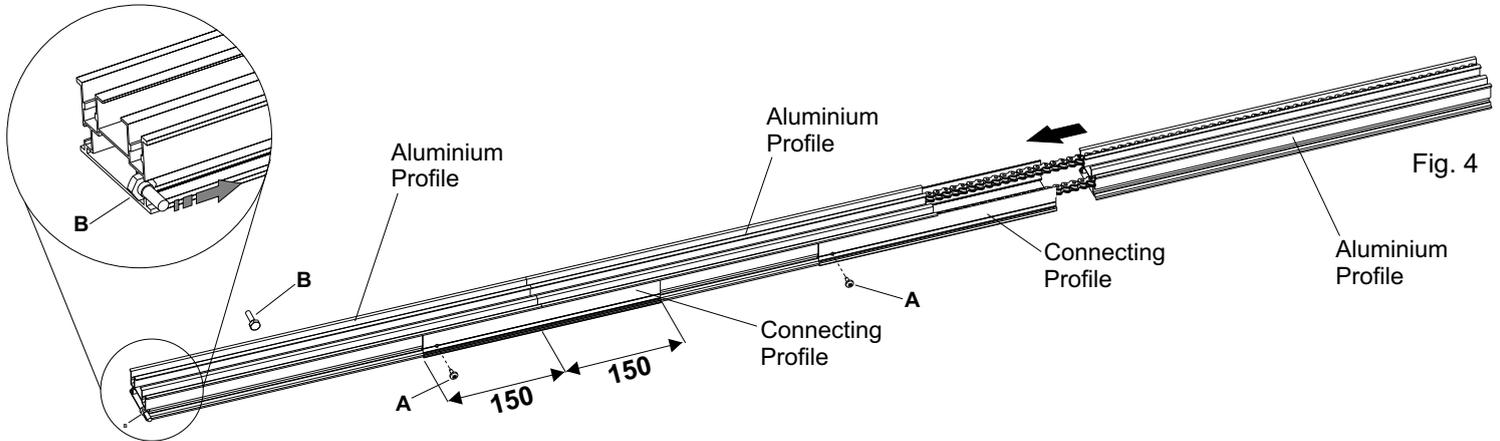
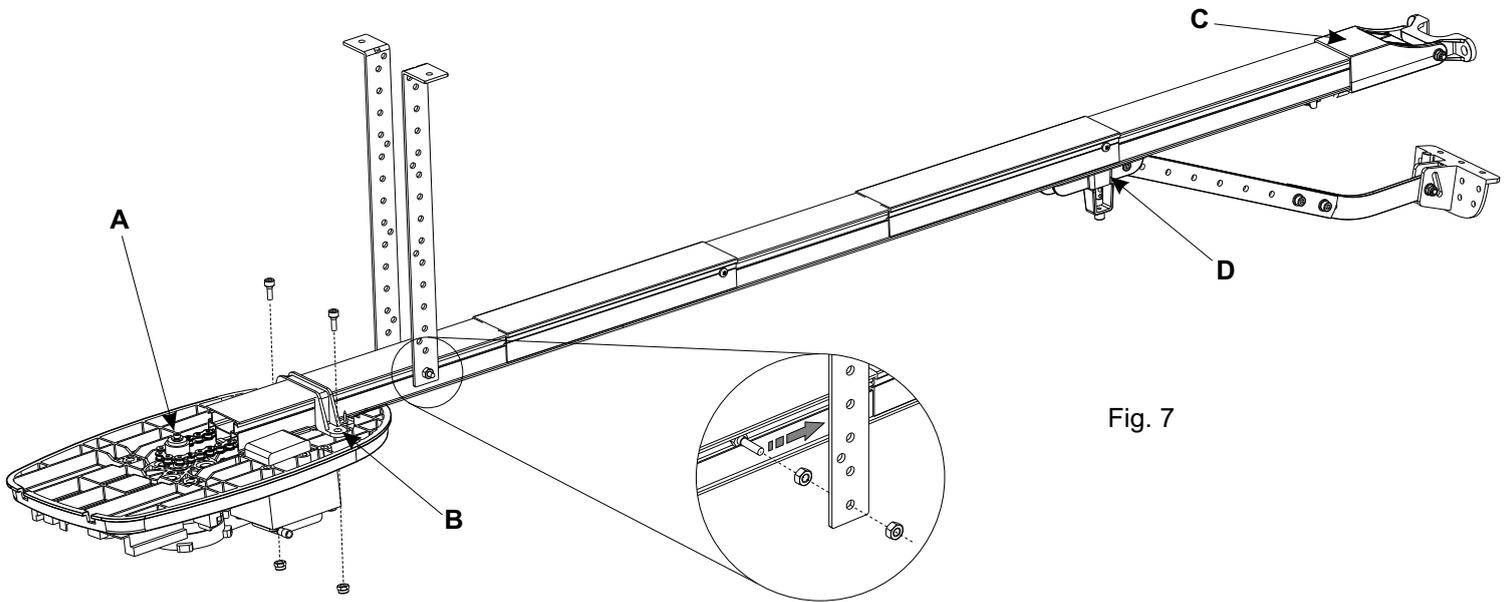

Fig. 4
Fig. 7
- Insert the connecting profile into the aluminium profile for half its length (150 mm) and fix it with the **A** screw. (Fig. 4)
- Insert the two supplied screws (**B**) into the holes of the aluminium profiles (Fig. 4)
Note: In Fig.4 a pair of screws are inserted into the loopholes which will be used for fixing the Corona S operator to the ceiling with the special brackets (See also Fig. 7).
- Make sure that the chain has been correctly mounted on the pinion of the Corona S body (Fig. 7 - A).
- Place the guide on the stop of the Corona S body and fix it with the special bracket (Fig. 7 - B).
- Mount the front fixation support on the other end of the guide (Fig. 7 - C)
IMPORTANT: Keep well lubricated the chain and the sliding device (Fig. 7 - D).